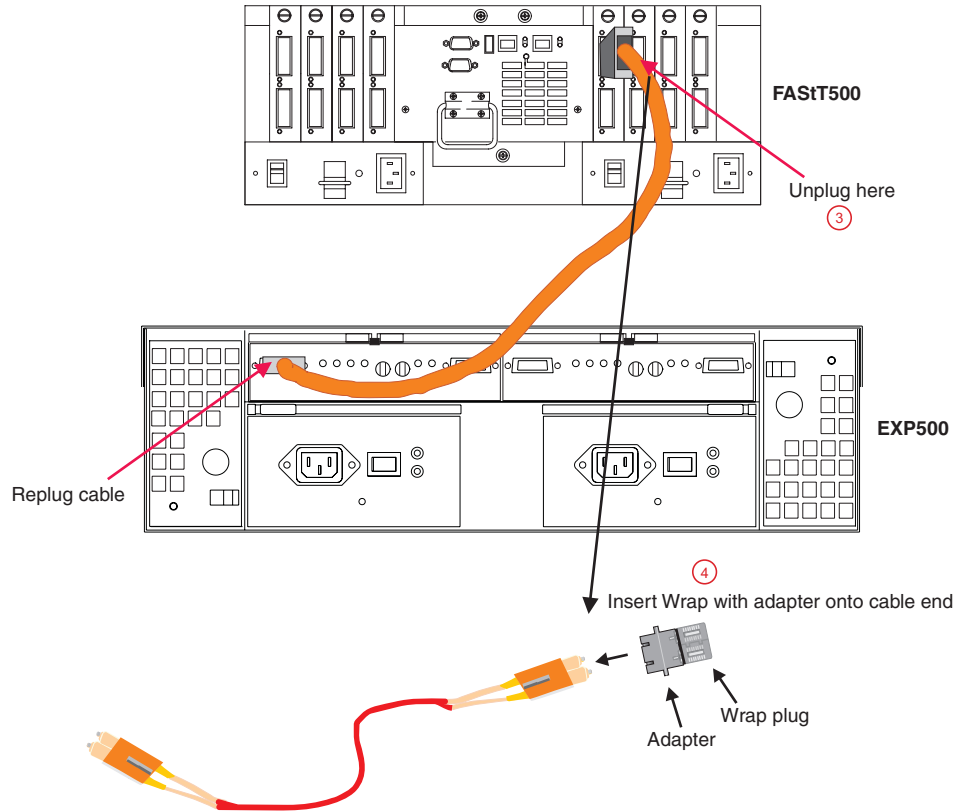

Figure 159. Insert wrap plug with adapter on cable end
4. Insert a wrap plug with an adapter onto the cable end. See Figure 159 on page 353.